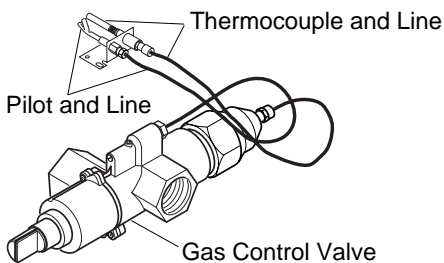

Figure 12 - Gas Control Valve with Thermocouple and Pilot
- Attach the pilot gas line to the pilot outlet of the gas control valve and tighten. Connect the thermocouple to the rear of the gas control valve. See Figure 12. Do not overtighten. If using propane/LP gas, see *Changing Pilot Orifice*, page 11.